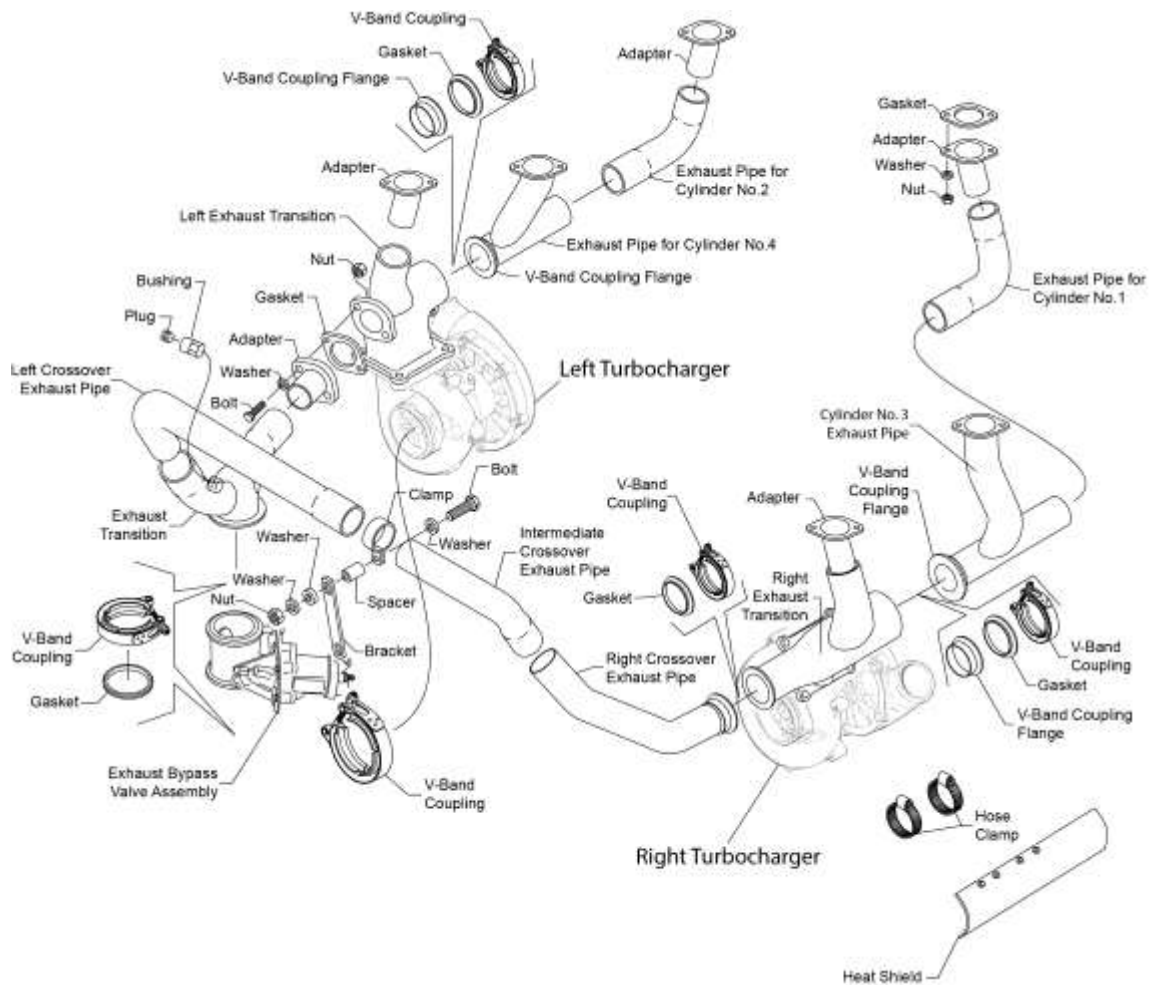

Figure 3
- B. Examine the exhaust system gaskets (Figure 3) for damage. Replace a damaged exhaust system gasket.
**CAUTION** ALL OF THE FLANGE SURFACES MUST BE ACCURATELY ALIGNED. IF CROSSOVER EXHAUST COMPONENTS ARE INCORRECTLY ALIGNED, THEY CAN CAUSE TOO MUCH STRESS TO THE FLANGES OF THE CROSSOVER EXHAUST PIPES (FIGURE 3). THIS MISALIGNMENT ALSO CAN CAUSE GAS LEAKAGE AT THE SLIP JOINTS OF THE INTERMEDIATE CROSSOVER PIPE AND FLANGE JOINTS OF THE LEFT AND RIGHT CROSSOVER PIPES.
- C. Examine the exhaust pipe and attachments (Figure 3) for cracks.
- I. Examine the exhaust pipe segments that are attached to the exhaust bypass transition assembly (Figure 3). Record all cracks on welds and attaching flanges. Replace cracked components.
- A. Using two hose clamps, install the inner heat shield (Figure 1) over the right exhaust transition (Figure 3) and the right exhaust pipe.